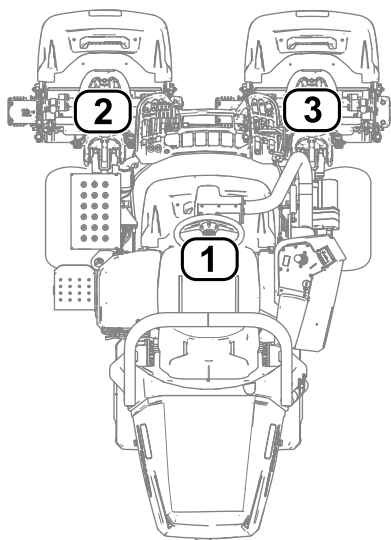

Figure 33
- **1** refers to the center cutting unit (Figure 33)
- **2** refers to the front left cutting unit (Figure 33)
- **3** refers to the front right cutting unit (Figure 33)